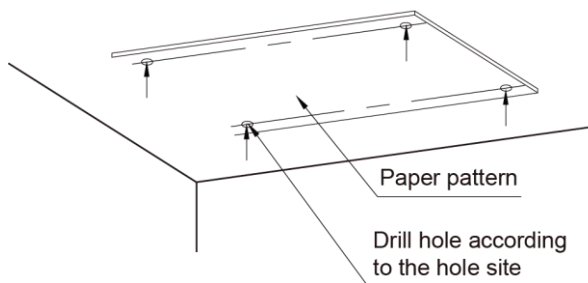
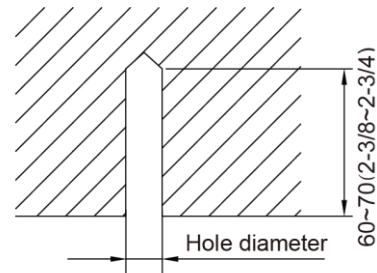

Fig 4.1.2
Fig 4.1.3
- 1) Stick the reference cardboard on the installation position; drill 4 holes according to the hole site on the cardboard as shown in fig 4.1.2; diameter of drilling hole is according to the diameter of expansion bolt and the depth is 60-70mm(2-3/8~2-3/4 in.), as shown in fig 4.1.3.